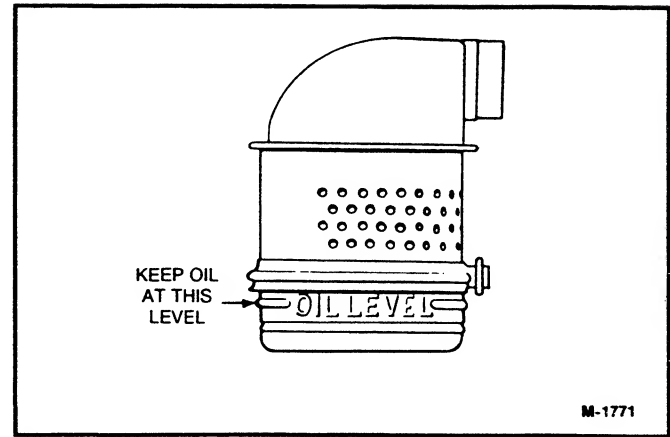

FIGURE 7-7. OIL BATH AIR CLEANER
1. Loosen the bottom clamp, remove the cleaner base and clean (see Figure 7-7).